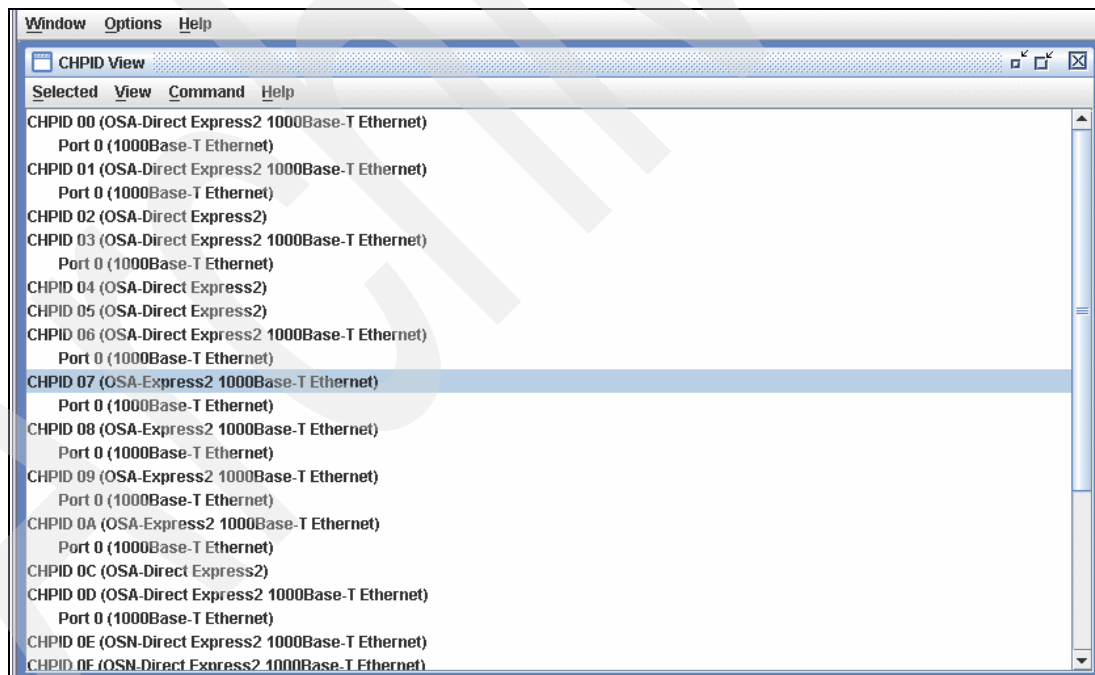

Figure 4-16 OSA/SF Workstation Interface - CHPID view
- From the OSA/SF Commands panel, click **CHPID View**. The CHPID View panel is displayed; it lists all OSA features in the configuration (Figure 4-16).